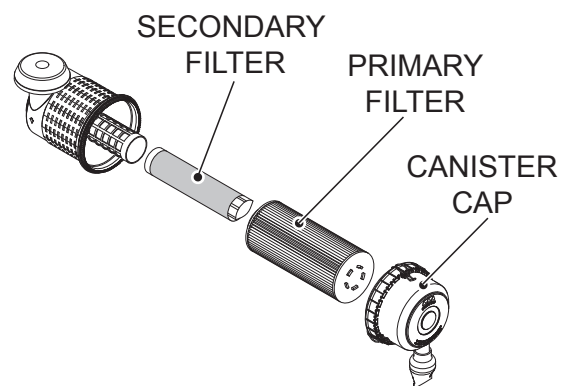

Figure 37. Secondary Filter
6. Pull out and check the secondary filter (Figure 37) and replace if required. The secondary filter cannot be cleaned.